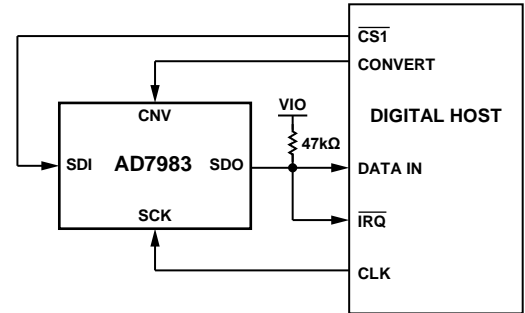
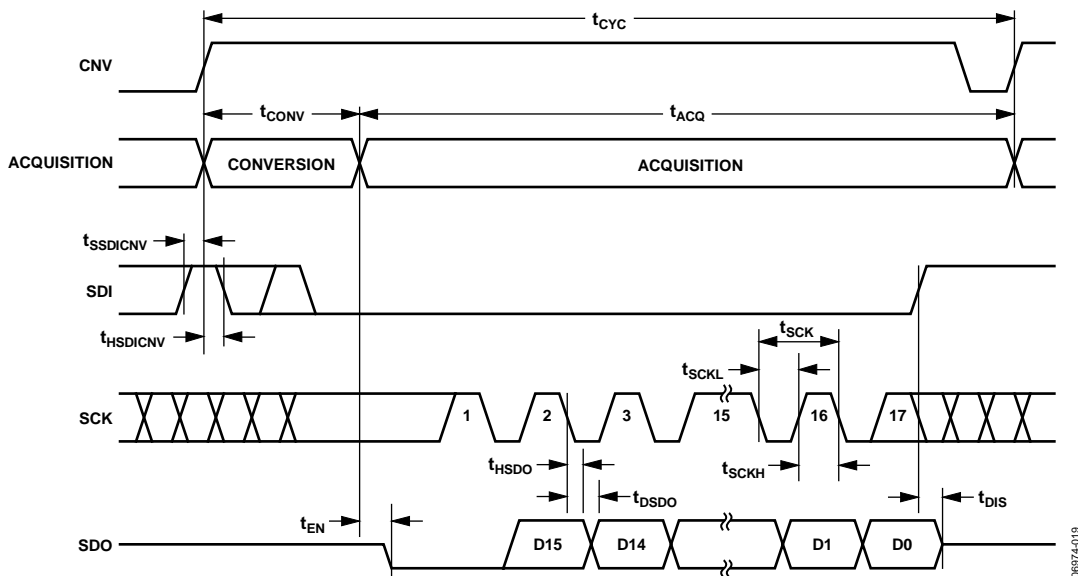

Figure 31. \overline{CS} Mode, 4-Wire with Busy Indicator Connection Diagram
Figure 32. \overline{CS} Mode, 4-Wire with Busy Indicator Serial Interface Timing
- In $\overline{\text{CS}}$ mode if CNV or SDI is low when the ADC conversion ends (see Figure 28 and Figure 32).
The connection diagram is shown in Figure 31, and the corresponding timing is given in Figure 32.